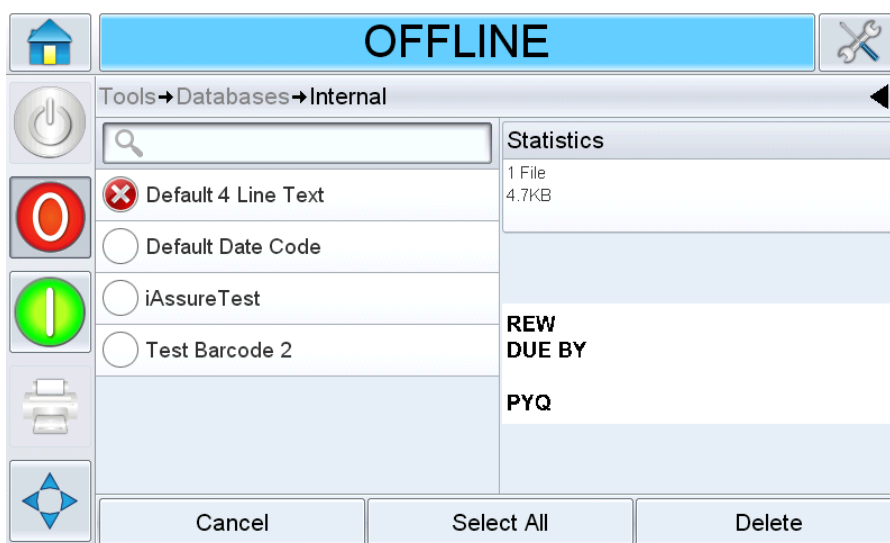

Figure 6-12: Database Delete Window
3. The internal job list screen is displayed (Figure 6-12). This screen contains a list of all the available print jobs along with details of the space available for the storage of new jobs.